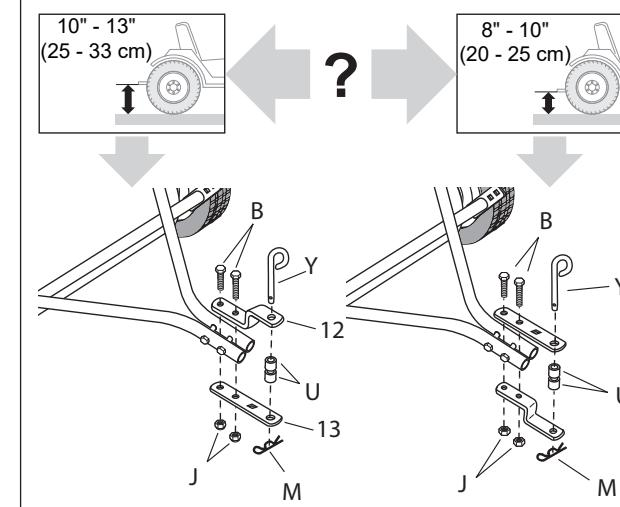

Figure 7
STEP 7: (SEE FIGURE 7)
- Attach the hitch bracket (12) and straight hitch bracket (13) based on your measurement requirements using 5/16-18 x 2" hex bolts (B) and 5/16-18 nylock nuts (J). Hand-tighten.
- Continue with a hitch pin (Y), hitch spacer tubes (U), and a 1/8" hair cotter pin (M). Hand tighten.